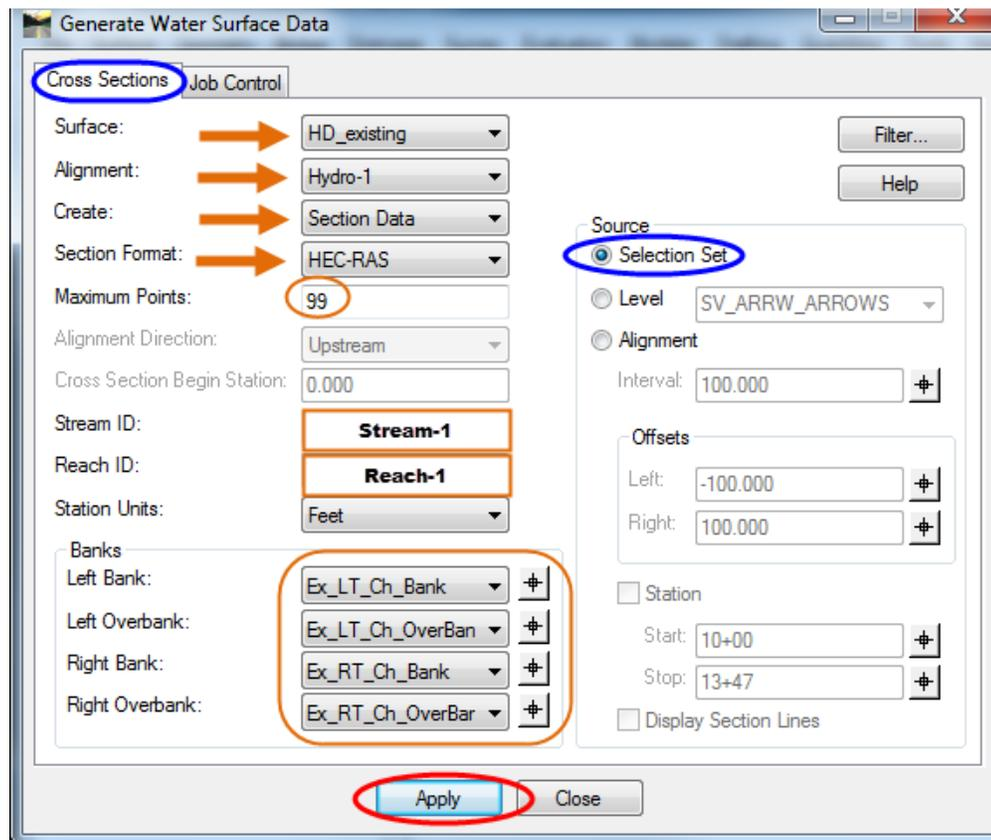

Figure 17 - Generate Water Surface Data
- E. Select the **Cross Sections Tab** and for Source choose **Selection Set**. Leaving this dialog box open. See Figure 17.